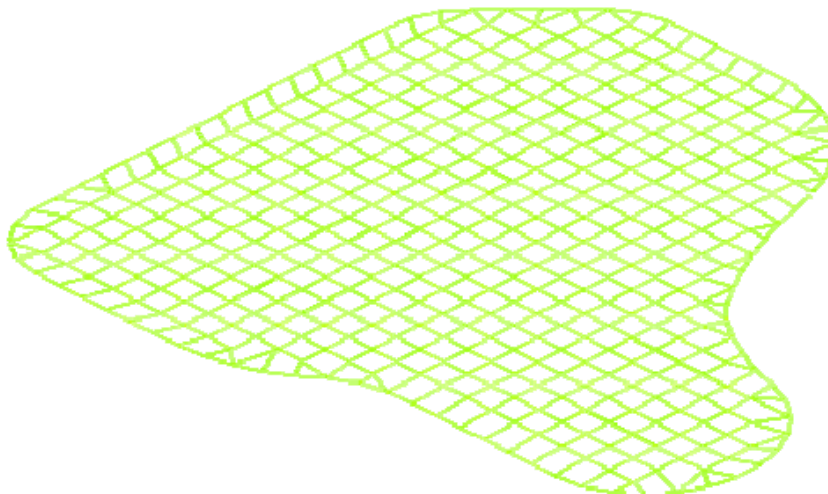

Figure 5.10 Blank meshing
- Compare the generated mesh with Figure 5.10.